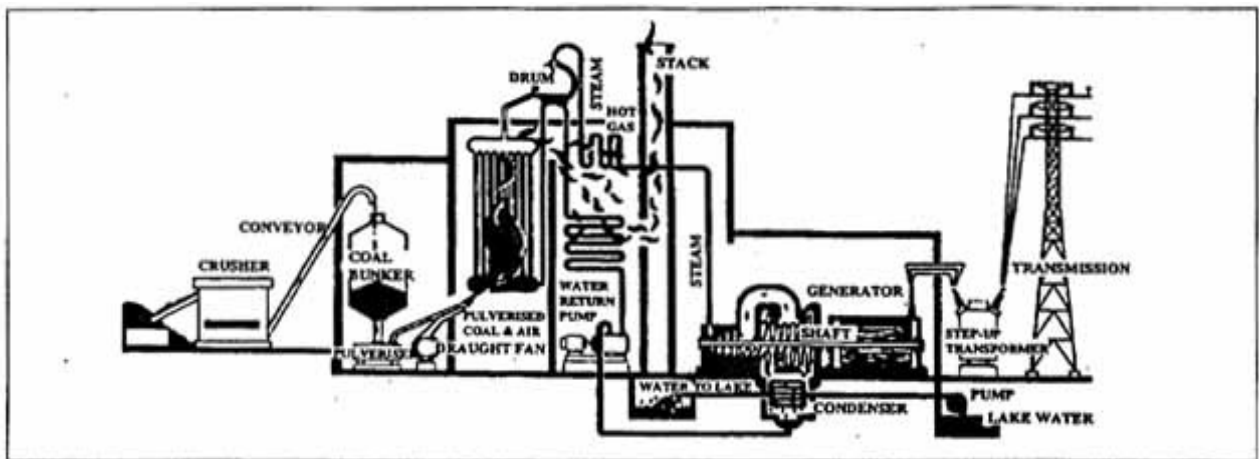

Figure 2: Inside a coal-fired power station
2. Figure 2 shows a Step-up Transformer between the generator and transmission lines.